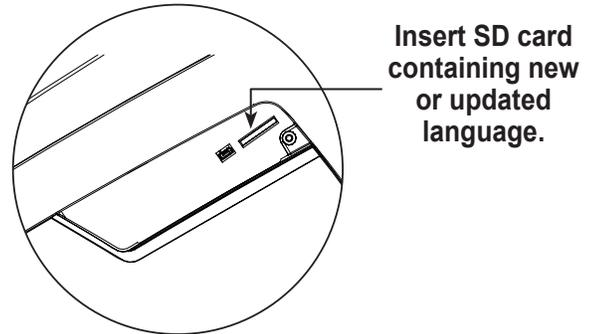

Figure 6
3. Insert the SD card containing the language data into the side panel on the machine. See Figure 6.